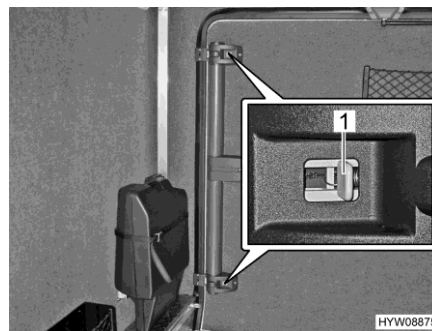

Fig. 58 Garage door (interior emergency release)
- Press the grey slider (Fig. 58,1) of the upper and lower lock toward the centre of the door.